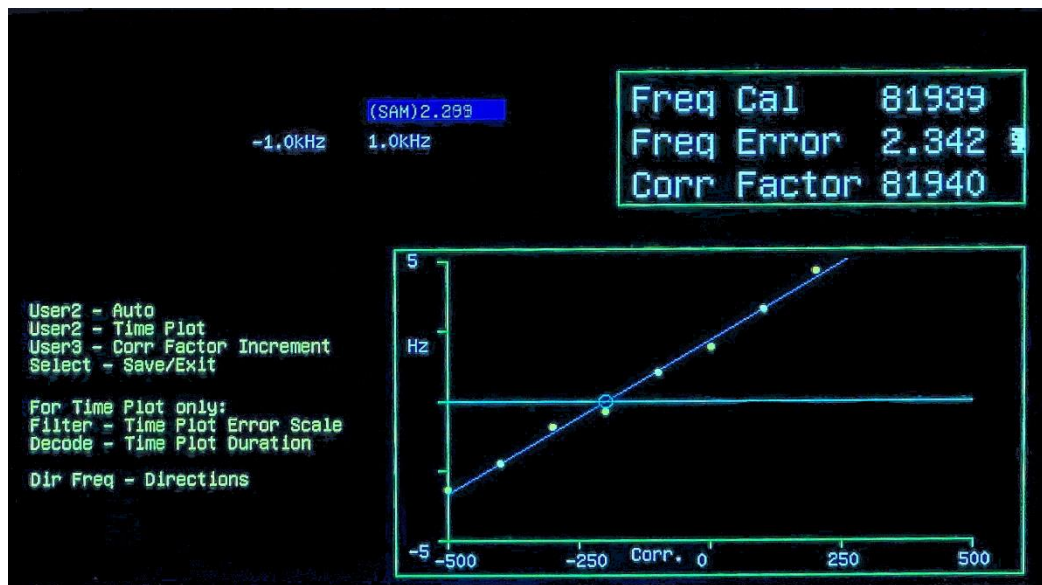

Figure 1 Auto Frequency Calibrate Crystal Reference
- Auto-calculation to the best correction factor uses linear regression. The Si5351 frequency is a linear function of the correction factor. The zero error point is found by varying the applied correction value measuring the frequency error and then creating a linear regression trend equation to predict the zero error correction factor value. Figure 1 shows the linear regression plot for a crystal reference fir the Si5351.